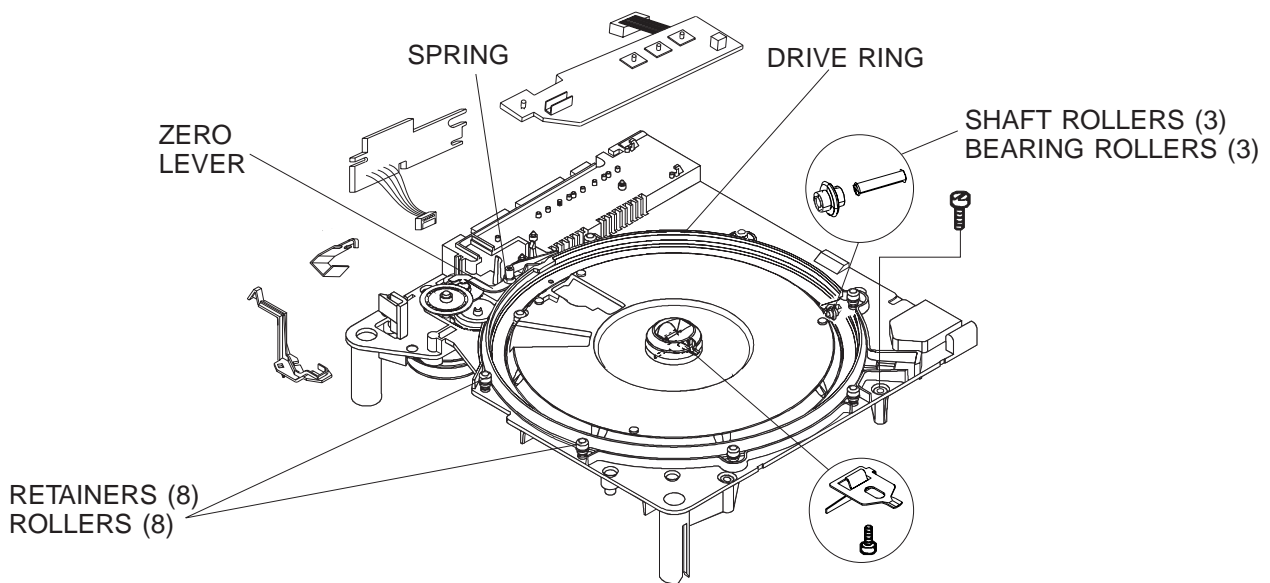

figure 4-7
5. Remove the SPRING and the ZERO LEVER. See figure 4-7.
6. Remove the 8 RETAINERS and 8 ROLLERS. See figure 4-7.
7. Remove the DRIVE RING. See figure 4-7.
8. Remove the 3 SHAFT ROLLERS and the 3 BEARING ROLLERS. See figure 4-7.